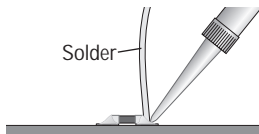

Figure 1.6.
5. Fully solder the tacked end of the component to its pad (Figure 1.6).